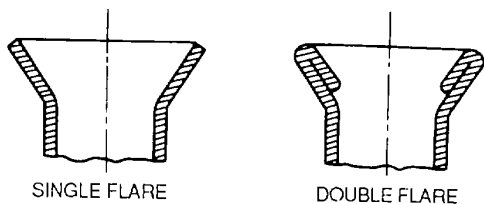

Figure 4-119. Single and Double Flares
a. Types. The two general types of flaring tools are the single and double. They produce flares as shown in figure 4-119.